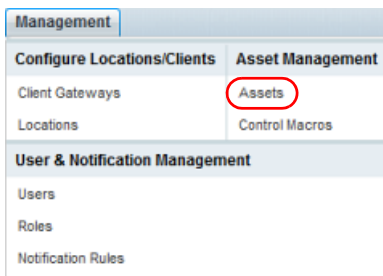

FIG. 213 Management > Asset Management > Assets
- To open the *Asset Management* page, select **Assets** under *Asset Management* in the *Management* menu (FIG. 213).